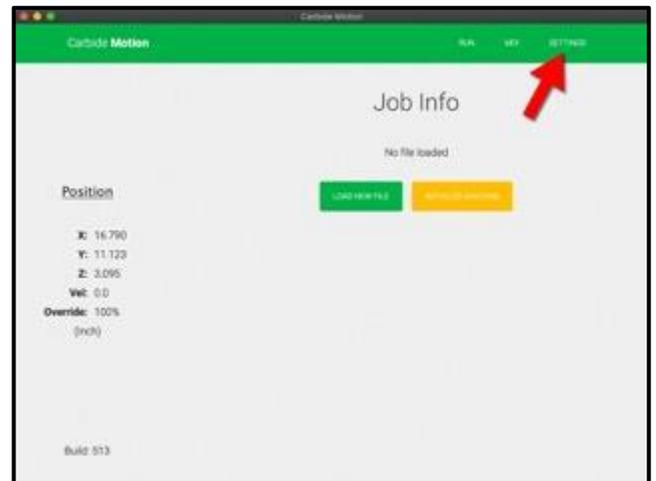

Figure 13-2
1. Once your screen reads “Job Info,” click the **Settings** button in the top menu bar to open Settings. See *Figure 13-2*.